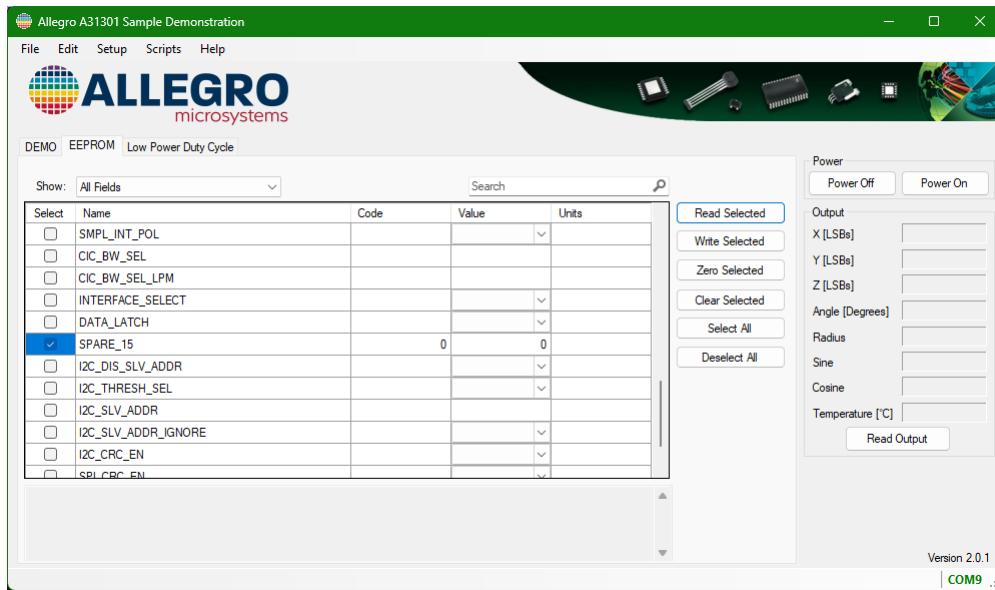

Figure 5: Reading a Field
- Click Read Selected. The memory field will appear similar to Figure 5.